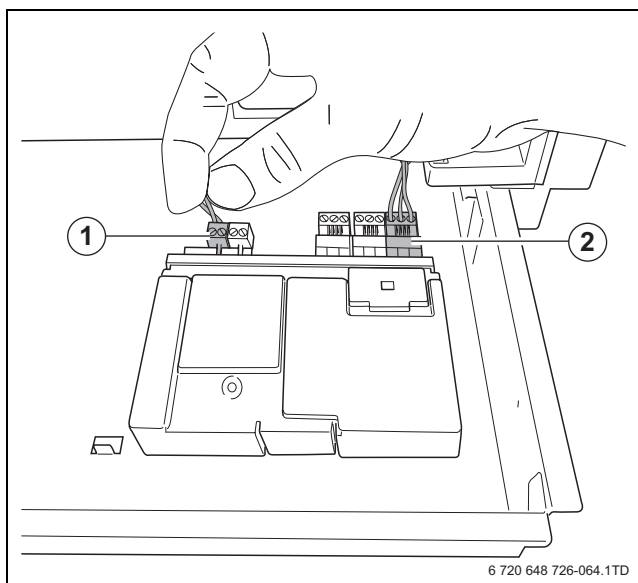

Fig. 64 Interconnecting modules
- Connect the free connector of the EMS bus connecting cable to the first module (→ fig. 64, [2]).